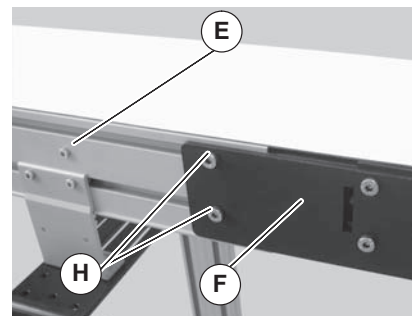
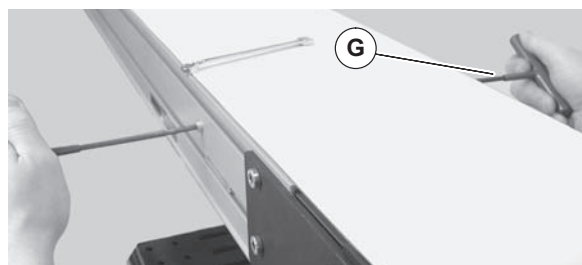

Figure 8
Figure 9
- On tension end of the conveyor, identified by the pinion locking screw (Figure 8, item E), loosen the two tail clamp bolts (H), on both sides of conveyor.
- With 5mm hex wrench, hold pinion torque screw (Figure 9, item G). Loosen the pinion locking screw (Figure 8, item E) and turn the pinion torque screw (G) to extend head plate assembly.
- After adjusting proper tensioning, tighten the pinion locking screw (Figure 8, item E) to 69 in-lbs (7.8 N-m), and tighten tail clamp bolts (Figure 8, item H) on both sides of conveyor to 146 in-lb (16.5 N-m).